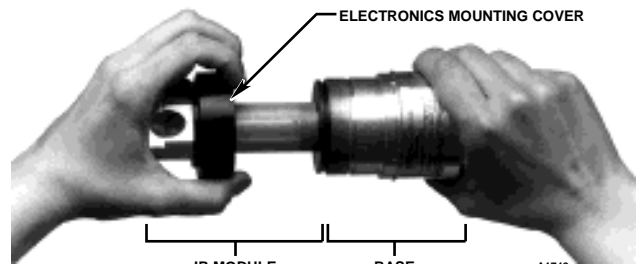

Figure 12—IR Module Removal
3. Slide the electronics mounting cover back to the base of the mirror assembly and pull the IR module out of the base as shown in Figure 12.